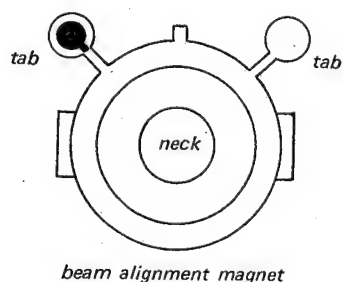

Fig. 3-4.
3. Set the beam alignment magnet to the mechanical centre as shown in Fig. 3-4.